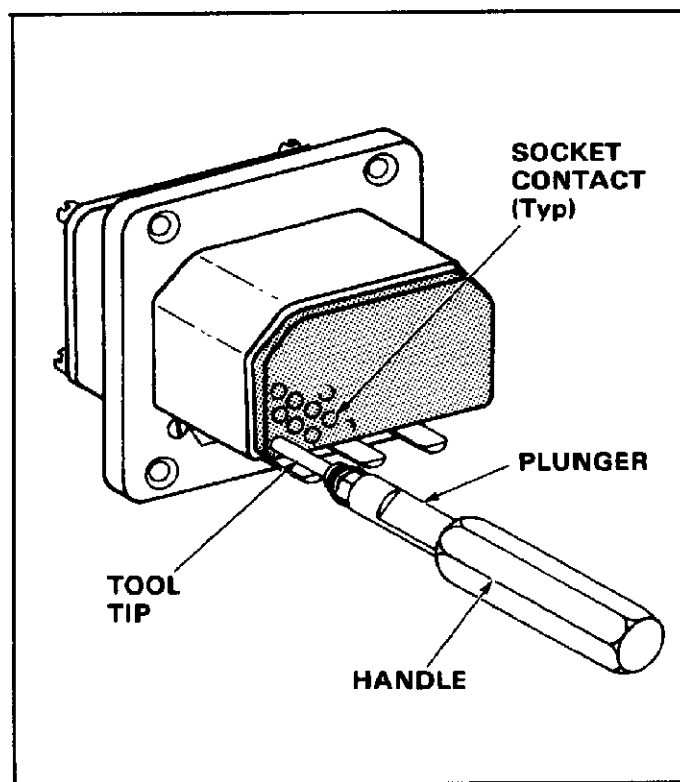

Fig. 7
**SERIES AA, AM, AD, AND ADS CONNECTORS****6. CONTACT EXTRACTION (Figure 7)**